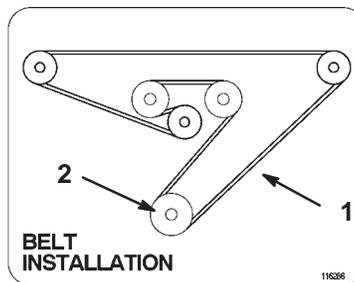

Figure 6
- 9. Pull on idler pulley to relax belt tension and install mower drive belt into the top, or single engine drive pulley groove (Fig. 6).